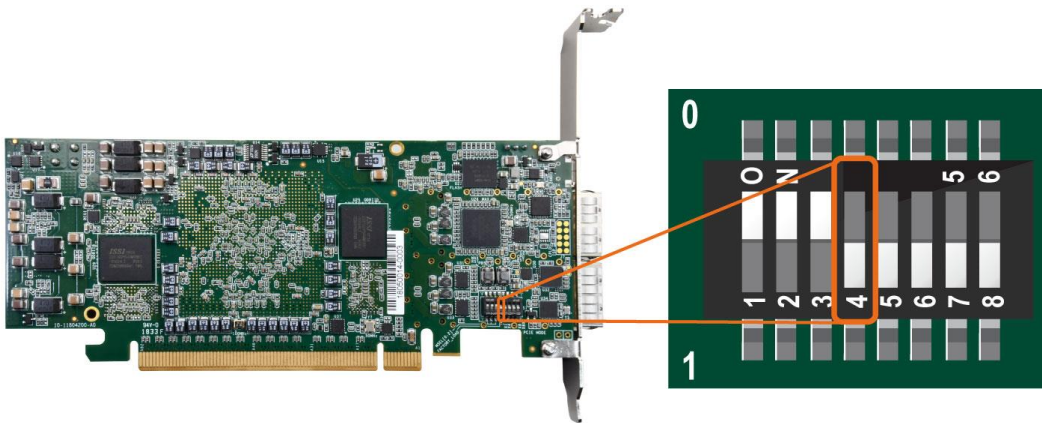

Figure 3-2 Configuration Image Selection
3. Specify the configuration of the FPGA using the default Factory Configuration Image or User Configuration Image by setting S1.4 according to **Figure 3-2**. When the switch is in position “1”, the factory image is used when the system boots. When the switch is in position “0”, user image is used when the system boots.